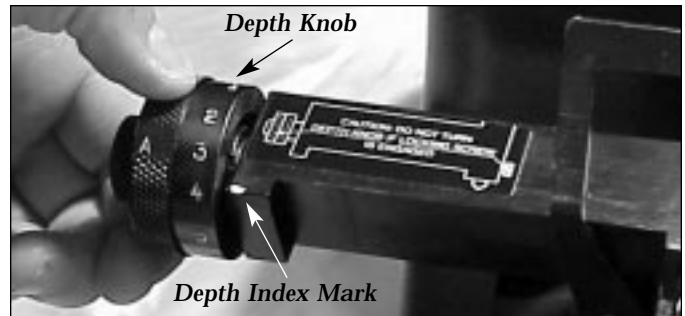

Figure 13
10. Rotate the Depth Knob to the number that corresponds to the first number of the desired key cut combination. In our example, 355331, this number would be “3”(see Fig. 13).